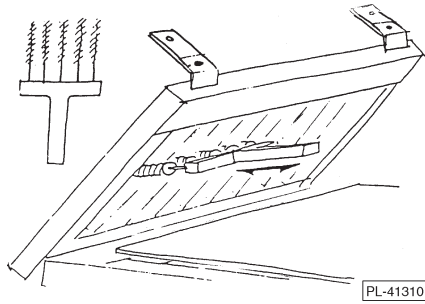

Fig. 15
10. Clean and sanitize the Rear Blades using the cleaning brush provided with the bread slicer (Fig. 15) and a sanitizing product. Place a towel under the blades to catch any drips. Tilt the Rear Blade Frame up and place the straps over the threaded studs.